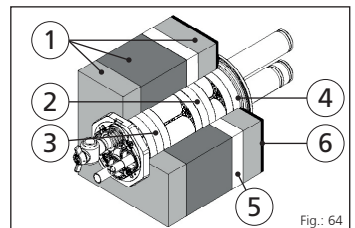
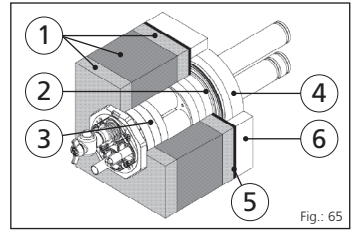

Fig.: 64
Fig.: 65
- With double/element walls, positive leak testing is only possible with basic variant 2 in conjunction with Module 1 and 1.2 (see Fig.: 64) or basic variant 2 in conjunction with Module 6.2 (see Fig.: 65).
Legend for Fig.: 64
Legend for Fig.: 65